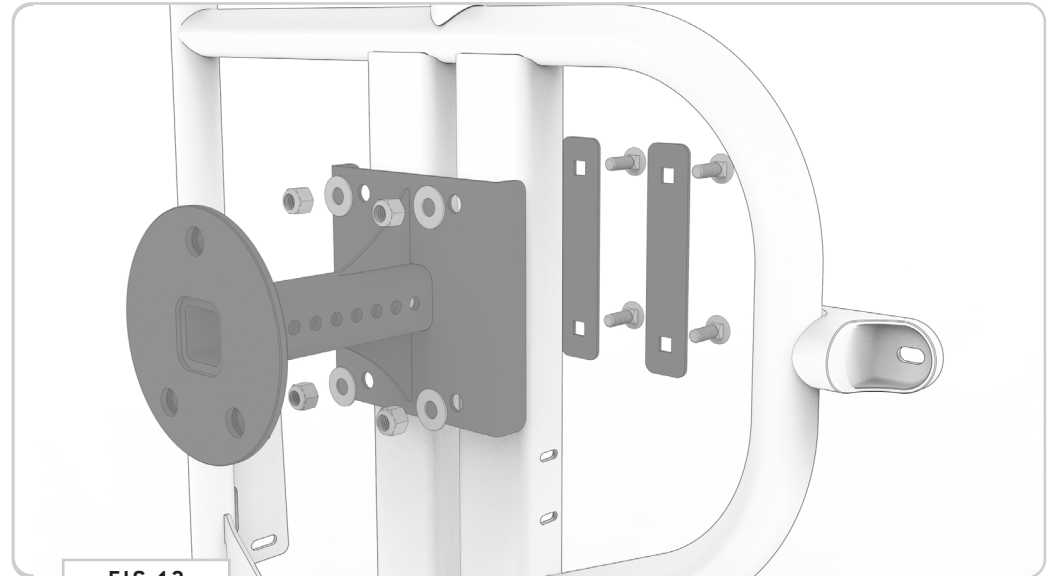

FIG 12
**4.1 Assemble the Tire Carrier:** Attach the **Wheel Bracket** to the **Tire Carrier Frame** using: **(2) Backer Plates**, **(4) 1/2-13 X 1.5 Square Neck Carriage Bolts**, **(4) 1/2 Screw Flat Washers**, And **(4) 1/2-13 Nylon Insert Locknuts** and a **3/4" Wrench or Socket** (FIG 12).